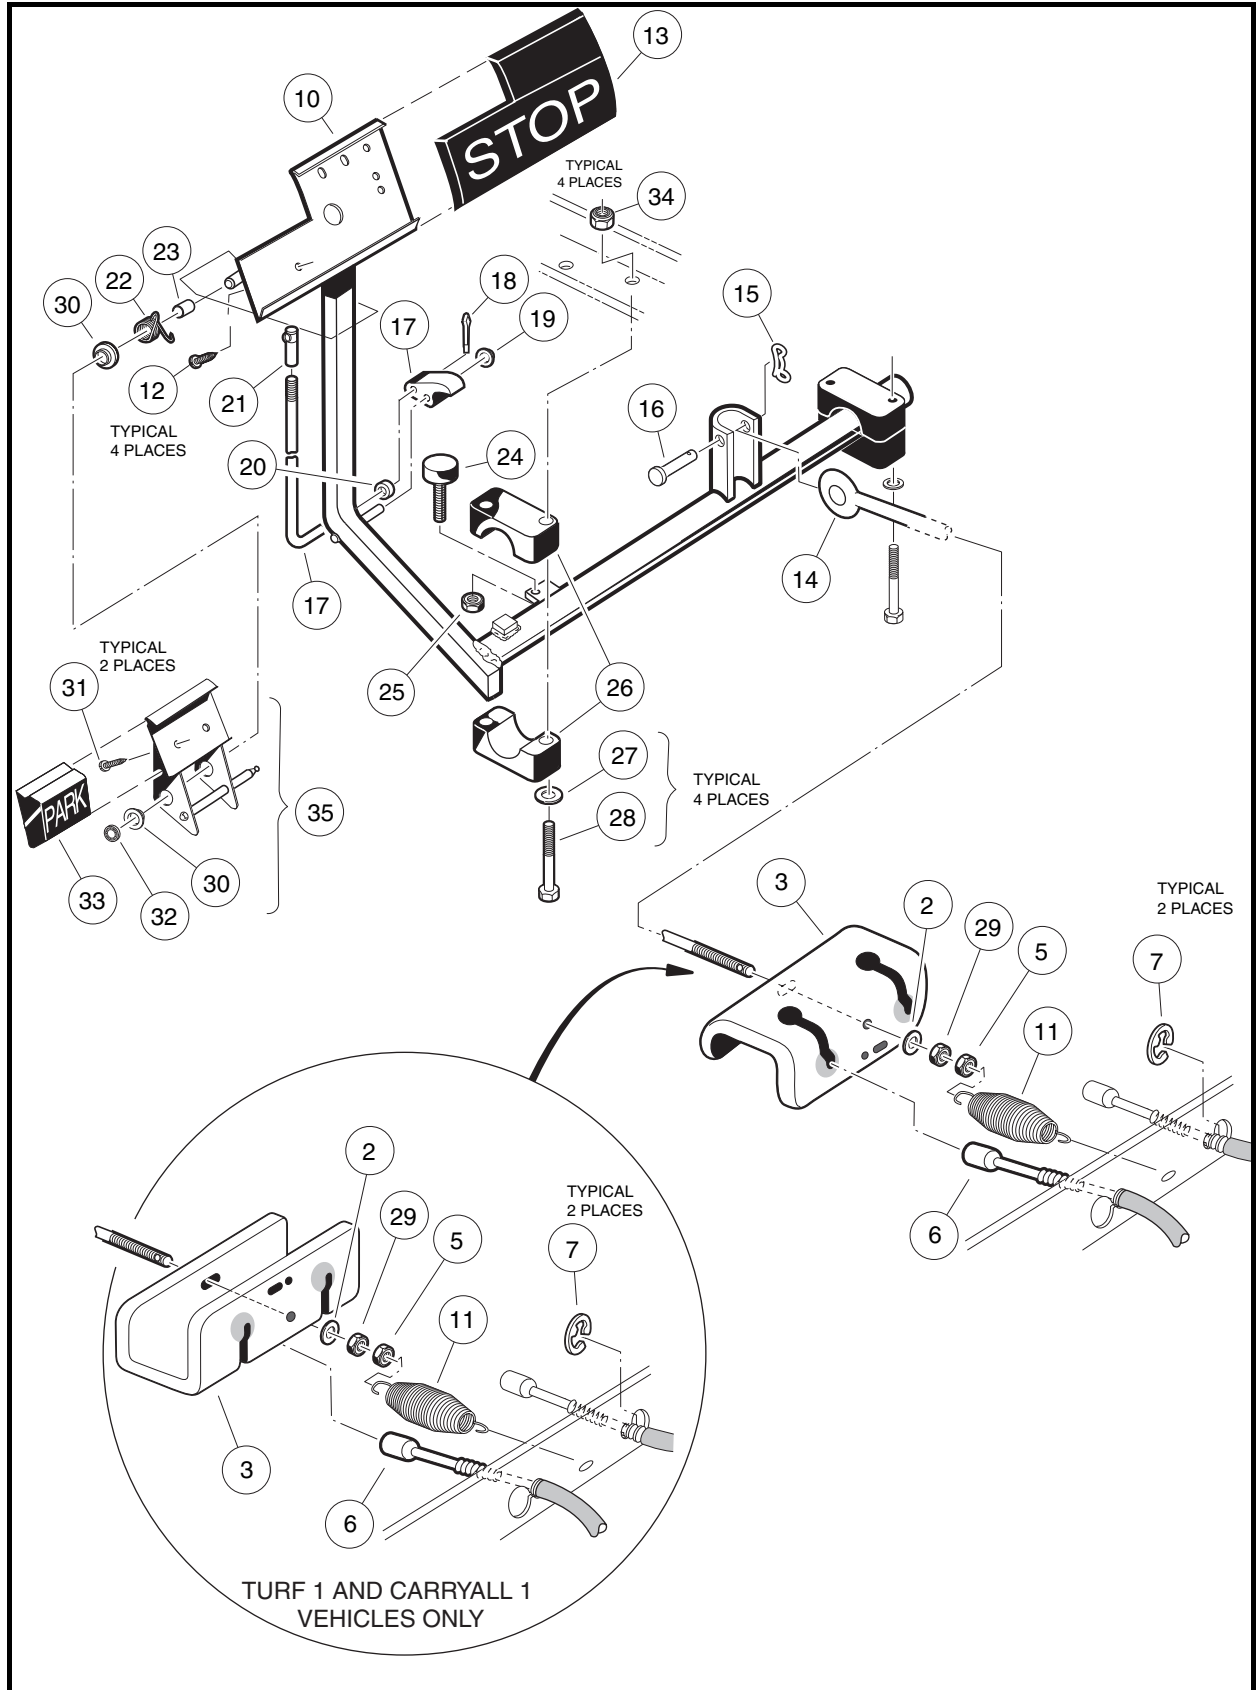
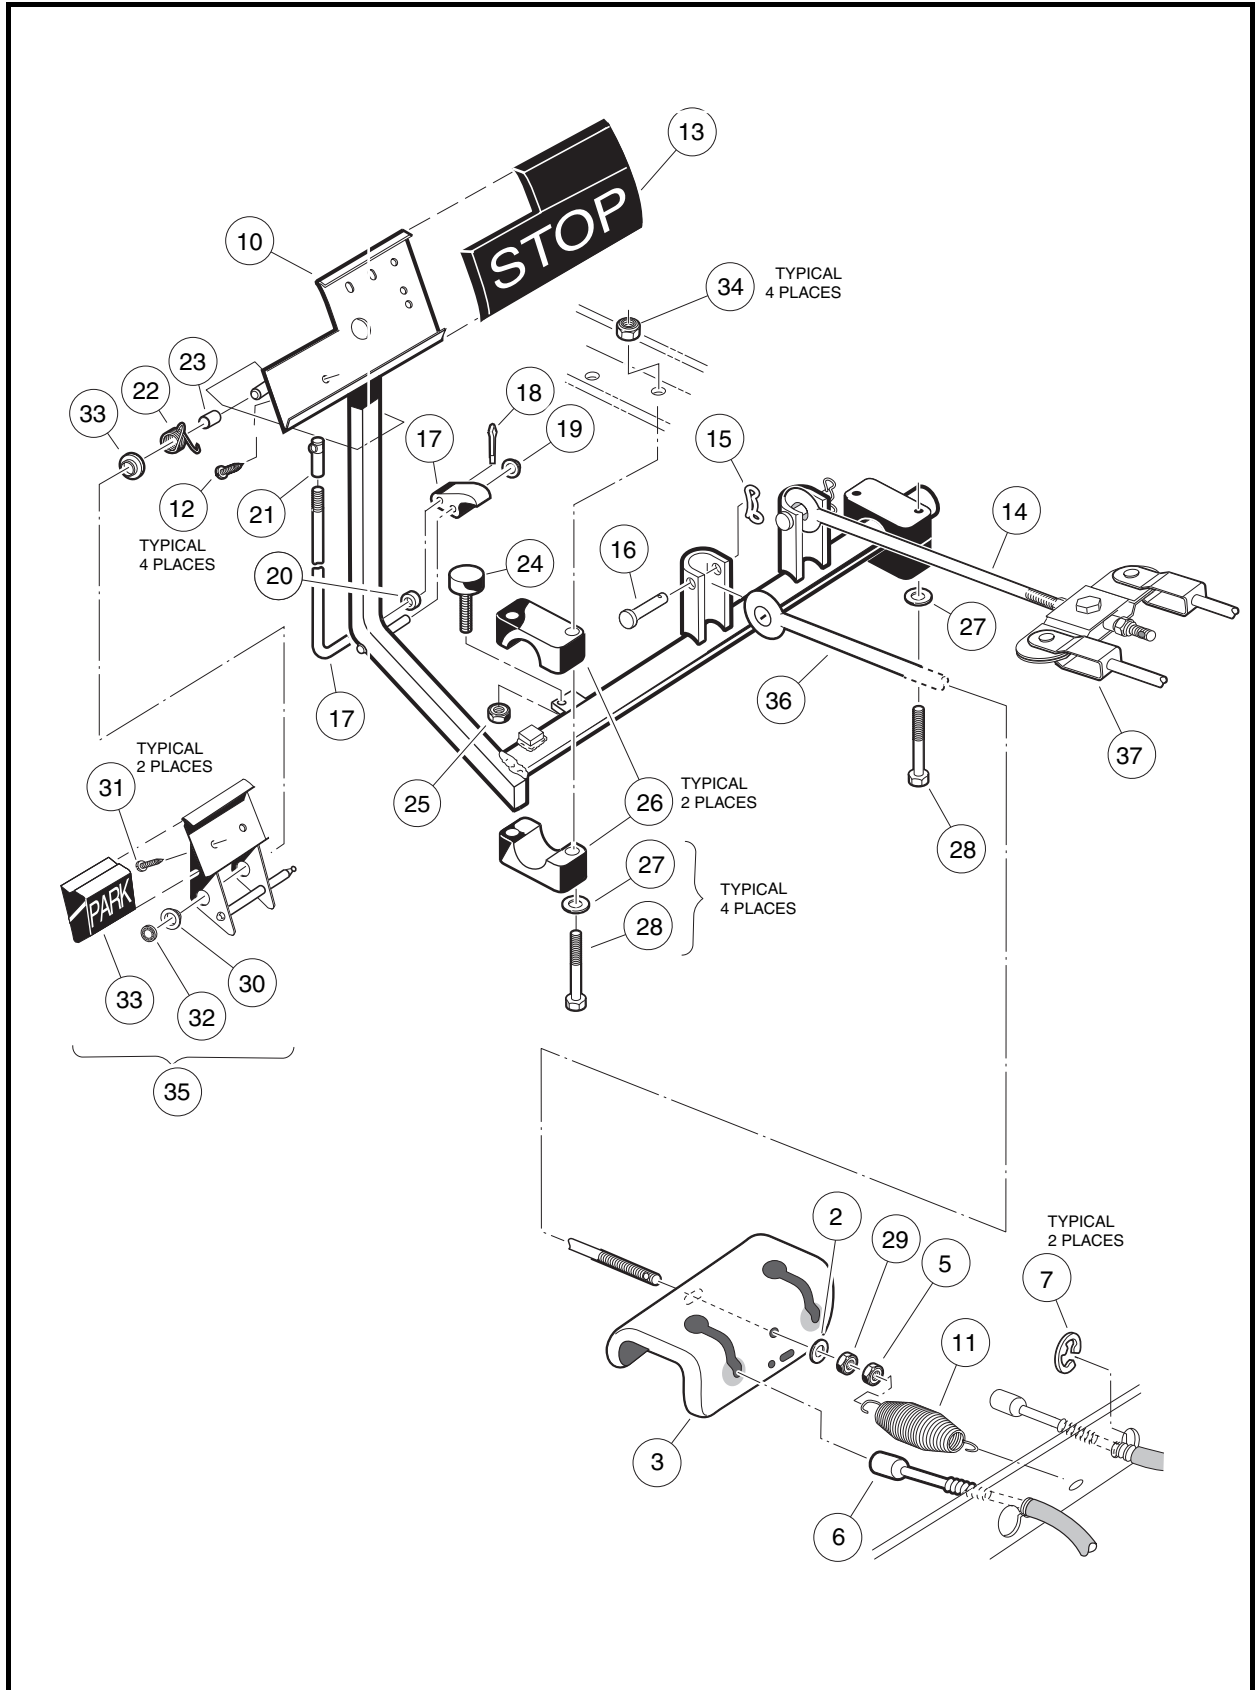
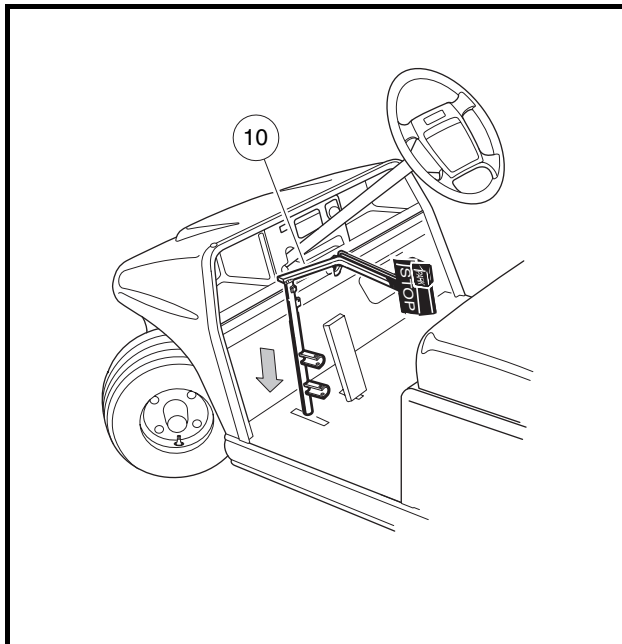

Figure 5-1 Brake and Park Brake Pedal Assembly and Mounting – Two-Wheel Brake Vehicles
Figure 5-2 Brake and Park Brake Pedal Assembly and Mounting – Four-Wheel Brake Vehicles
Figure 5-3 Brake Pedal Weldment Through Floor
- 3.1. Disconnect the equalizer rod(s) (14 and 36) from the pedal shaft by removing the clevis pin(s) (16) and bow-tie pin(s) (15) (**Figure 5-1, Page 5-2 or Figure 5-2, Page 5-3**).
- 3.2. Remove the nuts (34), flat washers (27), bolts (28), and mounting blocks (26). If the mounting blocks (26) show signs of excessive wear or are damaged, they must be replaced with new ones before installing pedal assembly (**Figure 5-1, Page 5-2 or Figure 5-2, Page 5-3**).
- 3.3. Remove the nut (25) and brake stop bumper (24) (**Figure 5-1, Page 5-2 or Figure 5-2, Page 5-3**).
- 3.4. Lift the pedal assembly (10) through the floorboard (**Figure 5-3, Page 5-4**).
1. From the top side of the floorboard, insert the brake pedal assembly (10) (**Figure 5-1, Page 5-2 or Figure 5-2, Page 5-3**) through the opening in the floor as shown (**Figure 5-3, Page 5-4**) and install the brake pedal stop bumper (24) (**Figure 5-1, Page 5-2 or Figure 5-2, Page 5-3**) on the brake pedal assembly, but do not tighten the jam nut (25) at this time.
2. Secure the equalizer rod(s) (14 and 36) to the brake pedal assembly (10) with clevis pin(s) (16) and bow-tie pin(s) (15) as shown (**Figure 5-1, Page 5-2 or Figure 5-2, Page 5-3**). Tighten to 17 in-lb (1.9 N·m). **See following NOTE.**
3. Position and attach brake pedal assembly, mounting blocks (26), and washers (27) to vehicle frame as shown. Tighten the bolts (28) and nuts to 113 in-lb (12.8 N·m) (**Figure 5-1, Page 5-2 or Figure 5-2, Page 5-3**).
- 3.1. To remove the park brake rod and pawl assembly (17 through 20), remove the push nut (19) and disconnect the ball joint sleeve (21) from the park brake pedal (35) **(Figure 5-1, Page 5-2 and Figure 5-2, Page 5-3)**. **See following NOTE.**